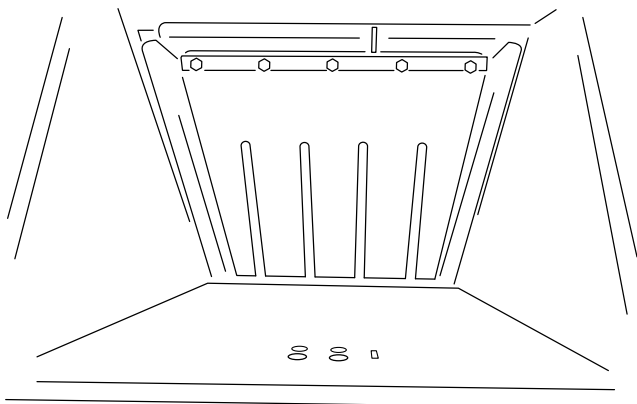

Figure 14
4. Lower the hopper (Figure 14).